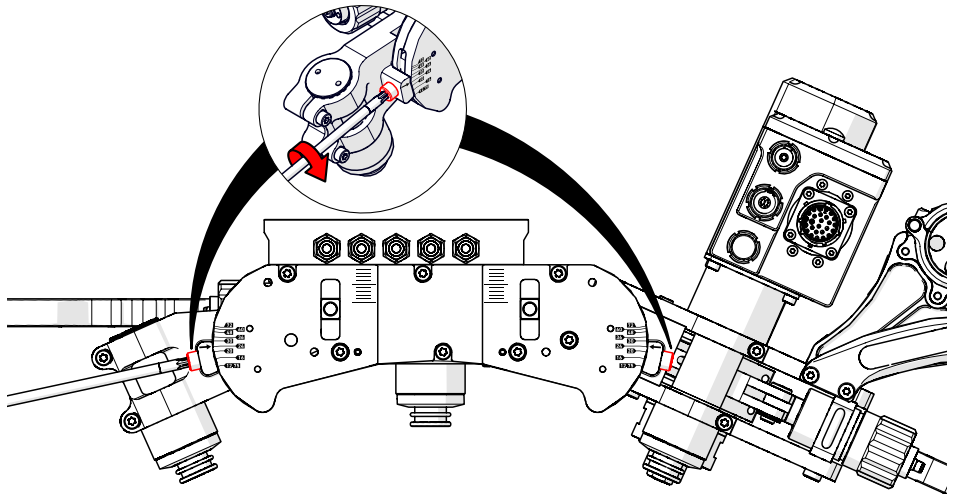

Fig. 63 - Carriage angle adjustment
3. Tighten the angle adjustment screws when the carriage wings are in position based on the arrow and pipe diameter markings (Fig. 63).